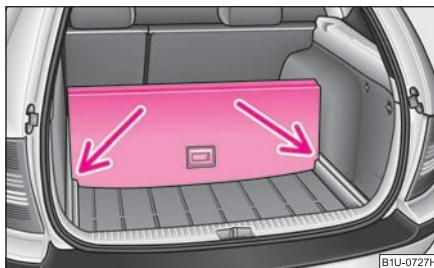

Fig. 75 Divide the luggage compartment
- Lift up a part of the loading floor with the handle and secure it by moving it into the grooves ⇒ fig. 75. ■